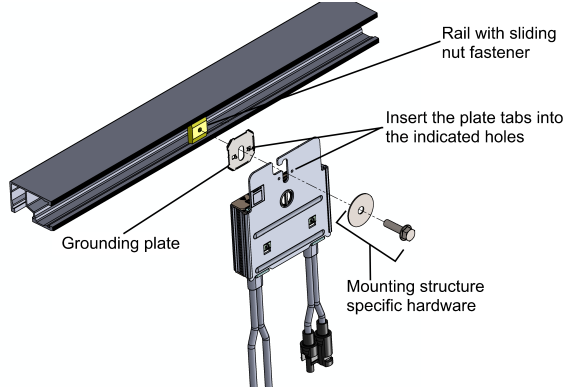

Figure 5: Power optimizer installation and grounding using a grounding plate
- For mounting on rails with sliding nut fasteners:** If the star washer cannot be used, use the SolarEdge grounding plate (purchased separately) between the railing and the flat side of the mounting bracket. Use mounting specific hardware as needed. Apply a torque of 9.5 N*m / 7 lb*ft. See Figure 5.